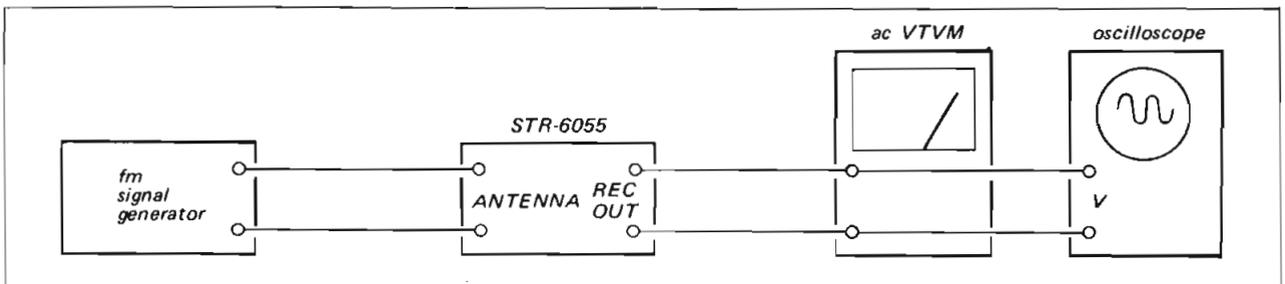

Fig. 3-3. Fm i-f, muting and front-end alignment test setup
1. With the equipment connected as shown in Fig. 3-3, set the signal-generator's controls as follows:
- With the equipment connected as shown in Fig. 3-3, set the receiver's controls as follows: